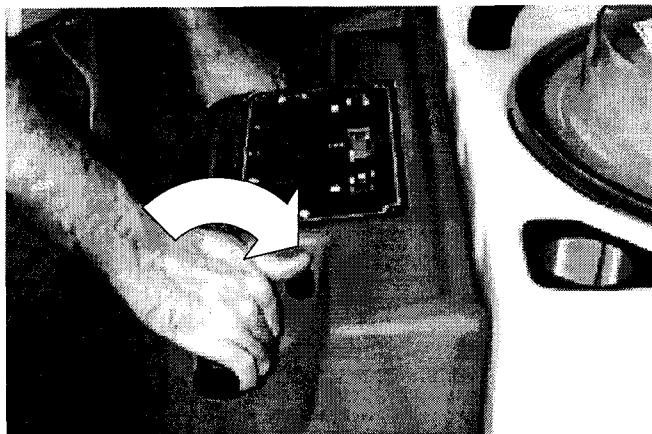

FIG. 13.
5. Rotate control grips completely forward and slowly turn speed control knob to desired cleaning speed. (Figure 13)